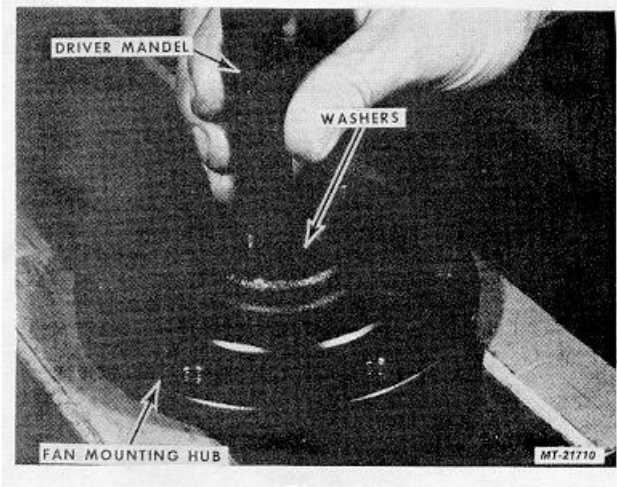

Fig. 18
15. Insert the small end of Driver Mandel, SE-2782-9 through the center hole in the washers, Fig. 18.